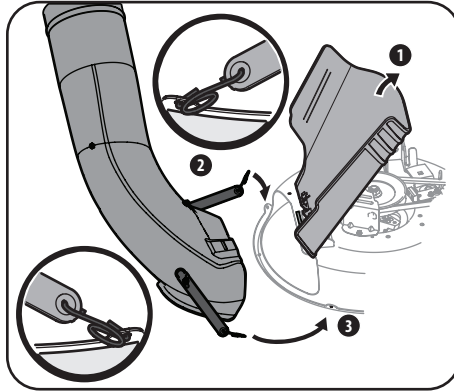

Figure 4-15
1. Secure the end of the strap utilizing the hole furthest from the end, insert the torsion spring hook (732-04510A) into the other end. Repeat process for rear strap as shown in Figure 4-15.